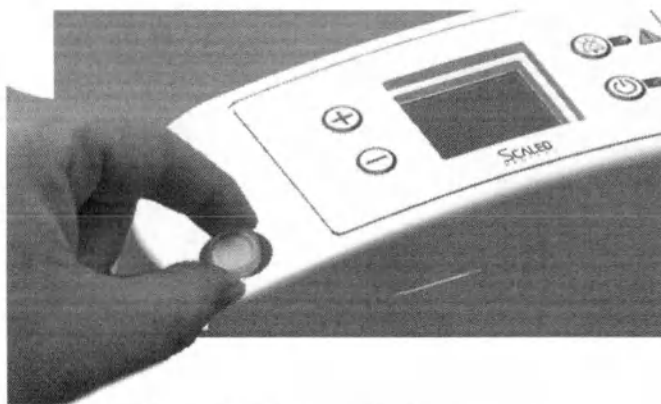

Figure 2: Filter output removal
2. Remove Filter Output, placed in the lower part of output opening, as shown Figure 2.